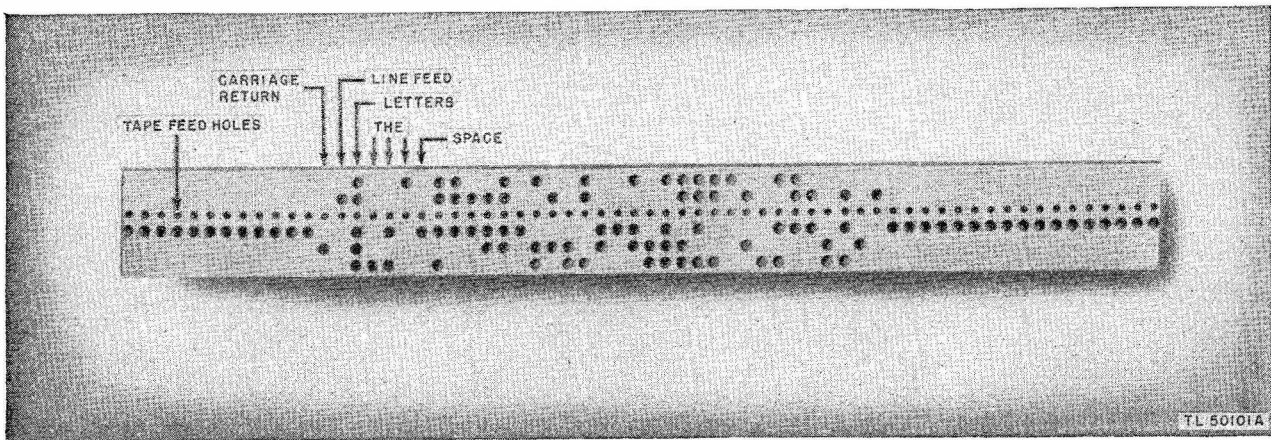
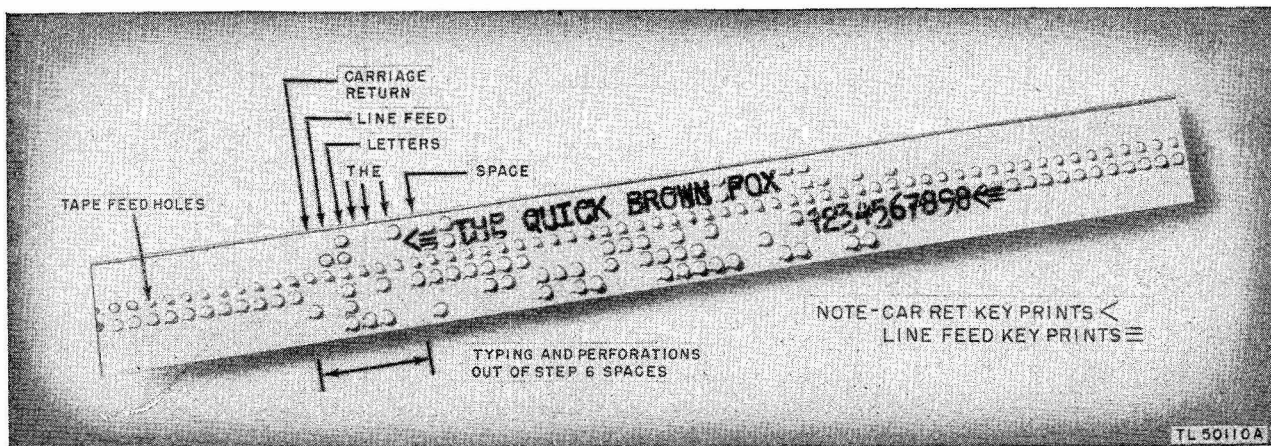

Figure 17. Example of regular perforated tape.
Figure 18. Example of chadless perforated tape.
*d. TAPE TRANSMITTER.* The tape transmitter is located at one end of the base, for easy access, and is inclosed by a separate removable snap panel. The tape-stop switch is at the front and bears the designations OFF-ON. The tight-tape stop lever extends along the right-hand side but is not fastened to the tape transmitter. A hinged tape retaining lid assembly located on the top of the tape transmitter holds the message tape in place. The tape transmitter is designed so that either of two types of tape may be used by the change of a few minor parts. An explanation and illustrations of the two types of tape are given in paragraph 12 and figures 17 and 18. An end-of-tape stop mechanism (sometimes called tape-out mechanism) is used to stop transmission when there
(figs. 17 and 18)
types of perforated tape. Regular perforated tape (fig. 17) is tape in which small pieces of the paper or *chads* are removed completely from the tape, leaving clean round holes. Chadless perforated tape (fig. 18) is tape in which small pieces of the paper or *chads* are cut about 75 percent of their circumference and remain attached to the tape by their leading edges. These edges form lids for holes (or perforations) in the tape. The latter type of tape is used when it is desired to print messages on the tape as well as to perforate the tape.